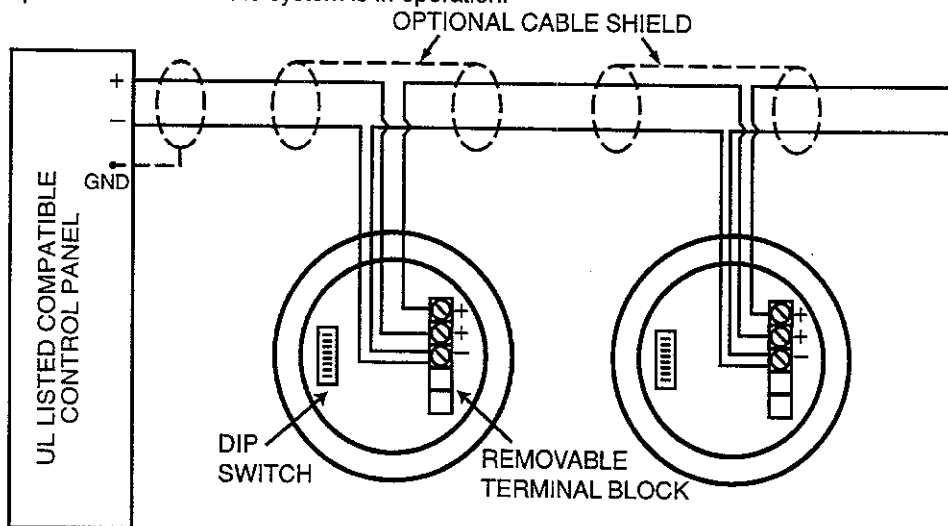

Figure 3. Wiring Diagram for 5192CP smoke detector
1. Wire the plug-in screw terminal block (see Figure 3) and plug the terminal block into the detector.